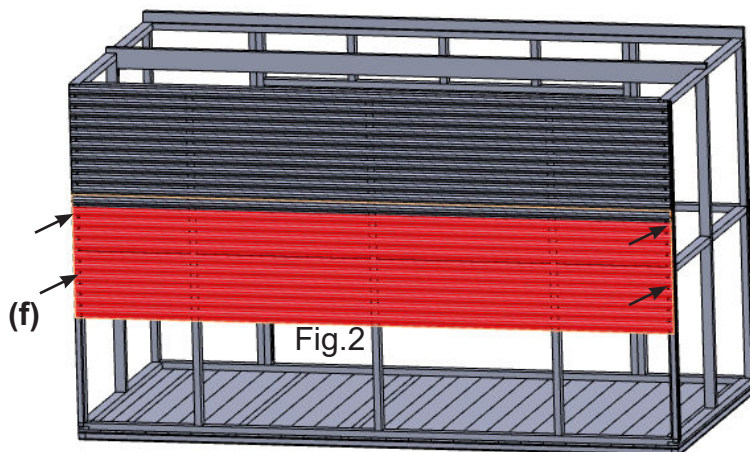

Fig.2
- Remove 2 full floorboards and fit the cut down board (fig.2). Make sure that the ends of all the boards are straight and aligned with the joists at both ends.
- Position the 2nd sheet underneath the first sheet so that it is overlapped correctly (**Fig. 3**). As per the first sheet, start in the top left hand corner, place a screw in the overlap of the 2 sheets (**Fig. 3(e)**) and (**Fig. 2(f)**).
- Repeat at the top at the other end. Once again square the framing up with the cladding and screw the bottom of the sheet using the same process as the top sheet (Fig. 2)